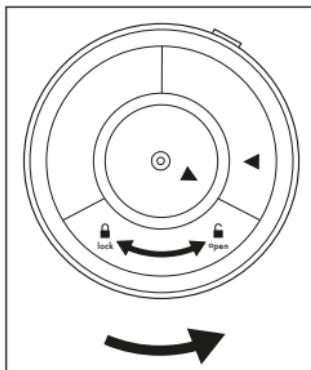

Fig. 1
2. Turn the main appliance 7 upside down to access the battery compartment latch 13. Rotate the battery compartment latch 13 anticlockwise towards open until the battery compartment latch 13 can be removed (see Fig. 1).